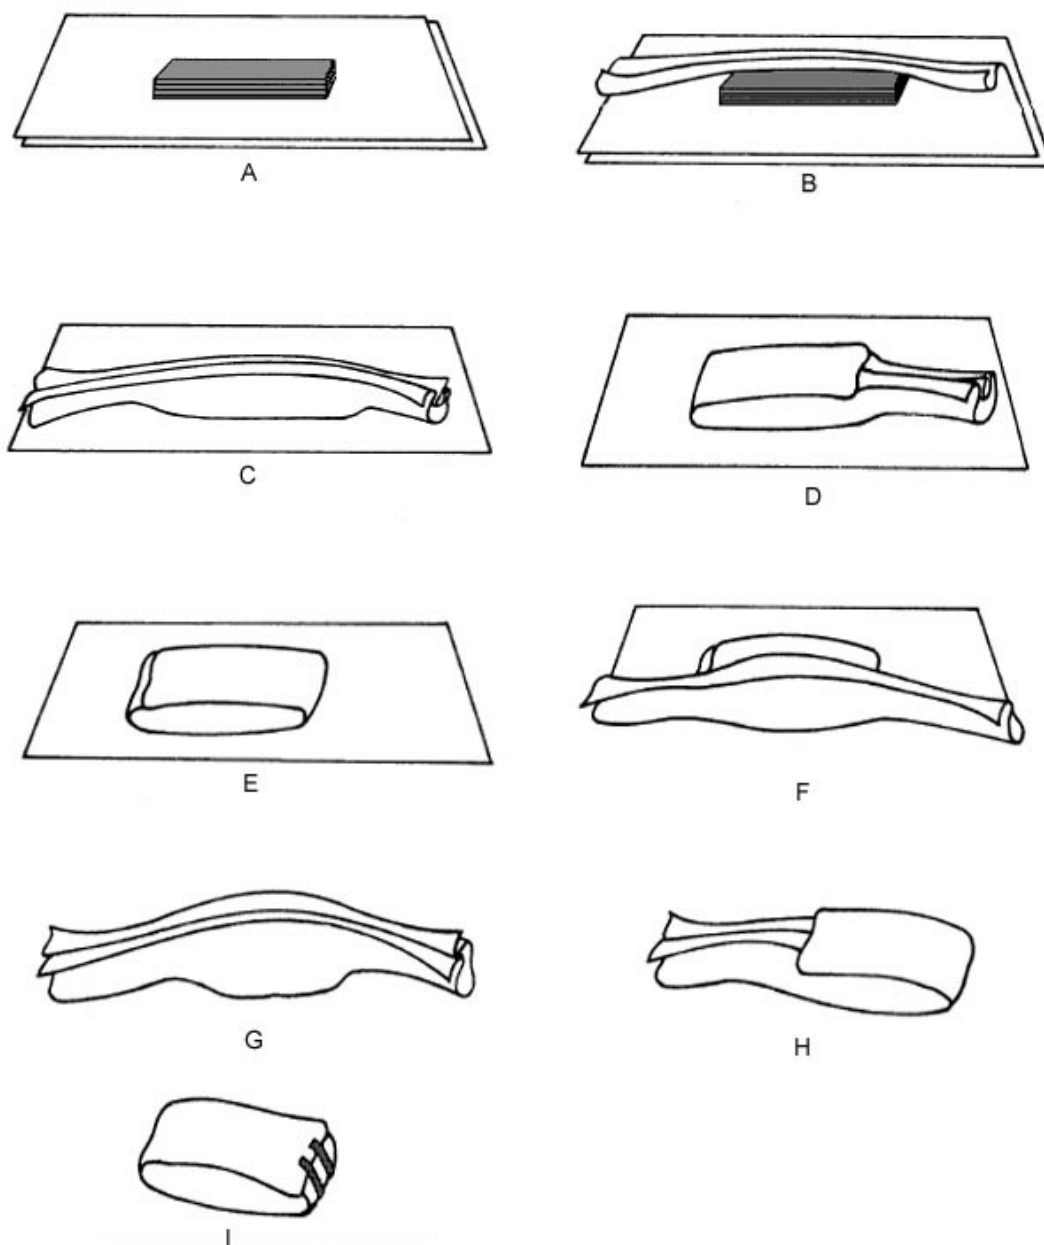

Figure 8-1: Double-wrapping: Square fold
- Wrap contents sequentially in two wrappers (refer to Figure 8-1).
- Wrap instrument tray sequentially in two wrappers (refer to Figure 8-1).